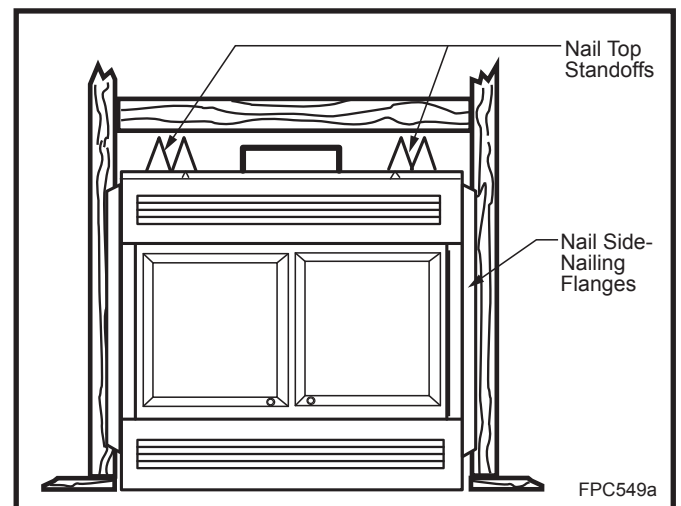

Fig. 13 Fasten fireplace in position.
Four (4) nailing flanges are supplied with the fireplace (found on the fireplace hearth). To level the box and secure it firmly in place, remove the nailing flanges from the hearth and install at the sides of the fireplace as shown in Figure 13.